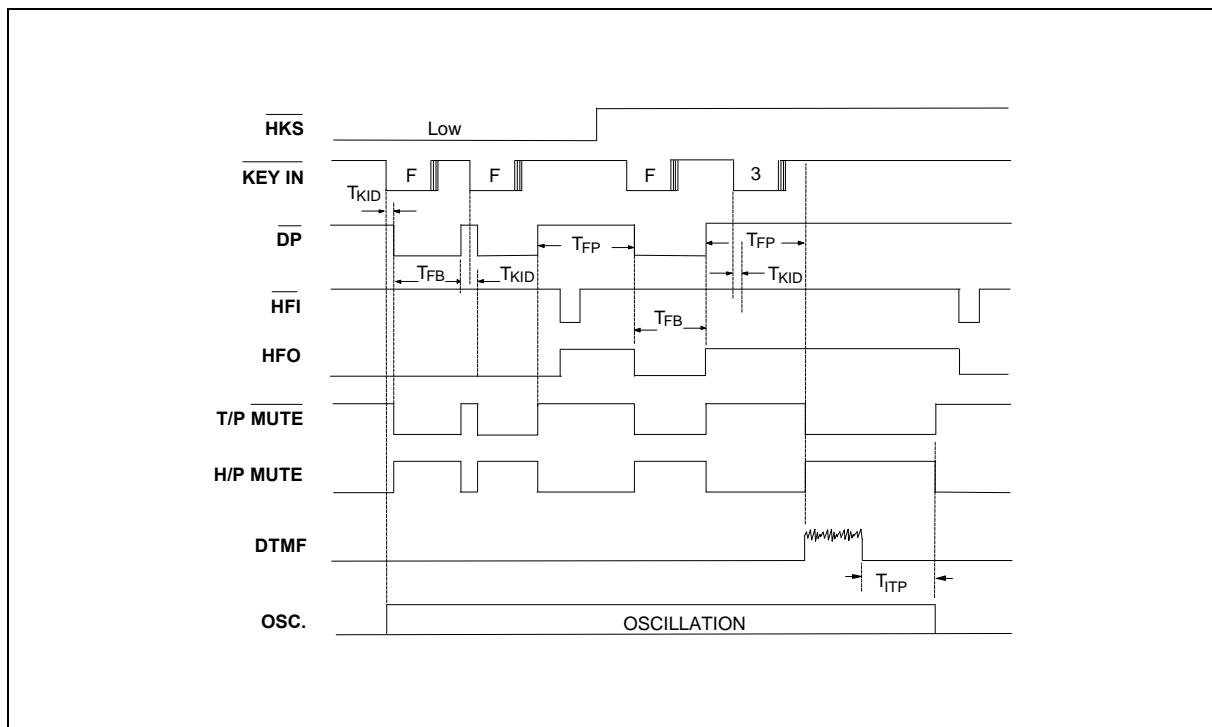

Figure 6. Flash Timing Diagram
5. The flash function timing diagram is shown in Figure 6.